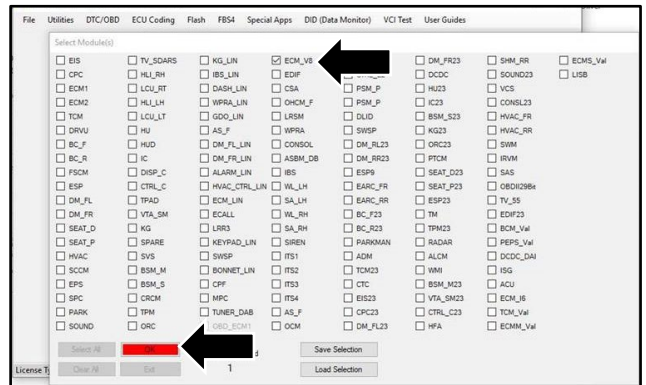

Figure 6
- 15. Select "ECM\_V8" then "OK" (refer to Figure 6).